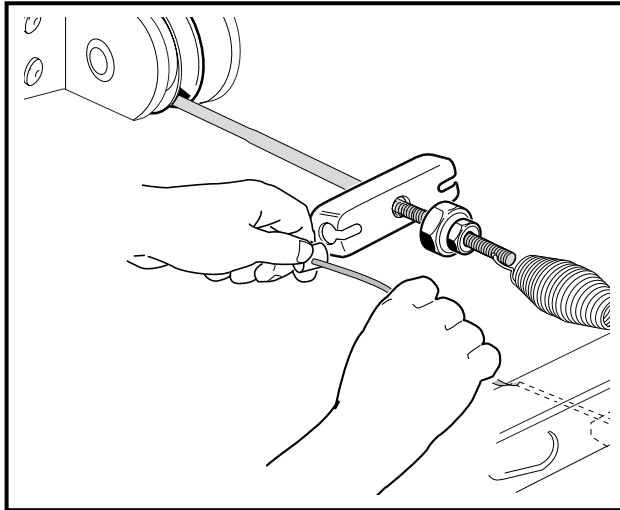
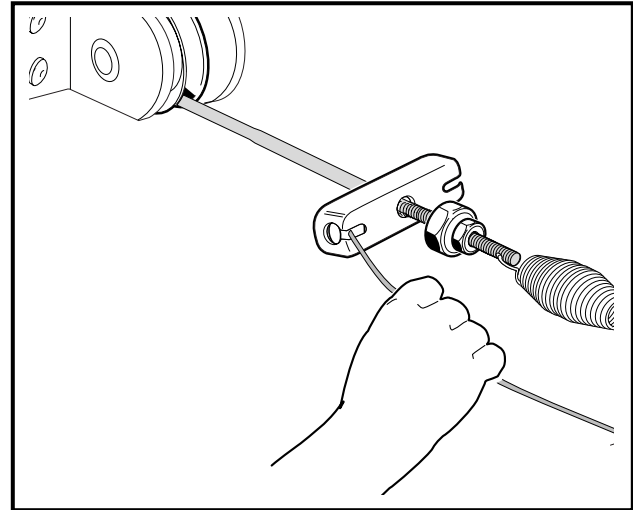

Figure 6-25 Position Wheel Brake Cable
Figure 6-26 Wheel Brake Cable Attachment
2. Pull a wheel brake cable to the side and remove the cable end (8) from the keyhole opening in the park brake equalizer (10) (**Figure 6-25, Page 6-34 and Figure 6-26, Page 6-34**).